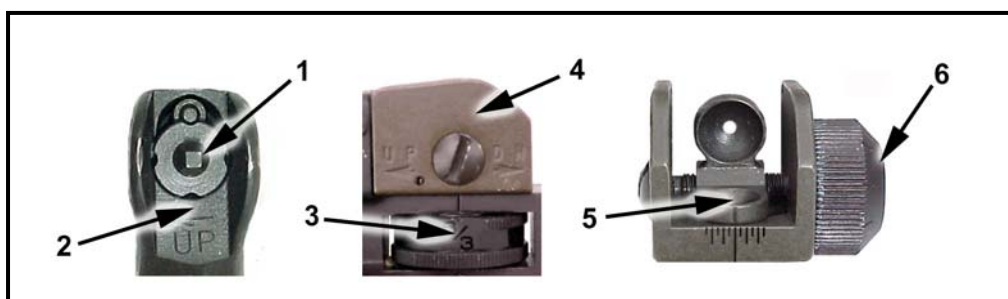

Figure 2-5. M16A2/A3 rifle mechanical zero.
(1) ***Mechanically Zeroing the M16A2/A3.*** Mechanically zeroing the weapon (Figure 2-5) is only necessary when the weapon zero is questionable, the weapon is newly assigned to the unit, or the weapon sights have been serviced. If necessary, the soldier should mechanically zero the weapon as follows: